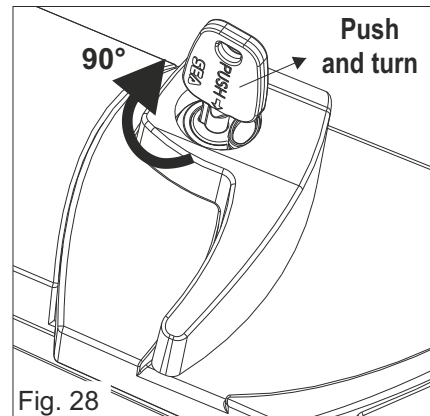

Fig. 28
- 2) Insert the release key, **push it** and turn it of about 90° clockwise (Fig. 28)